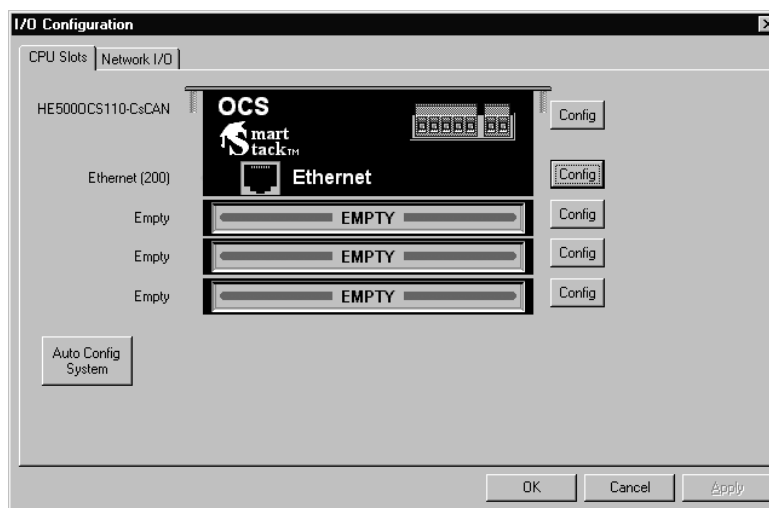

Figure 3.4 – I/O Configuration Dialog – User-Installed Ethernet Module
- c. Click **OK**. The Ethernet Module is now configured into an I/O slot, as shown in Figure 3.4.